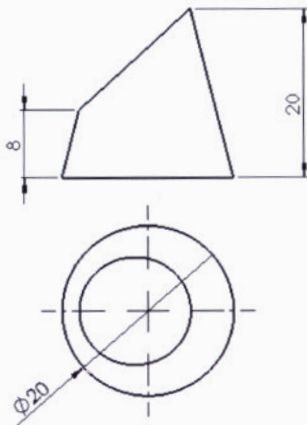

Figure 2
2. Given two views of a truncated cone are given in figure. 2. Draw full size, the following: